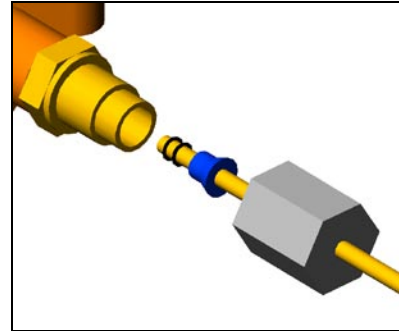
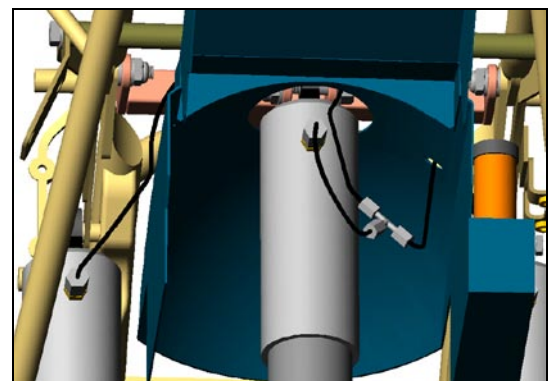

Figure 35
Figure 37
- a. Install one end of air line tubing to air solenoid valve as shown. Figure 35. Cut tubing to approximately 5 inches in length.
- g. Install short length of tubing from Tee branch to center shock absorber. Install line to center shock as shown in Figure 37 and Figure 35.